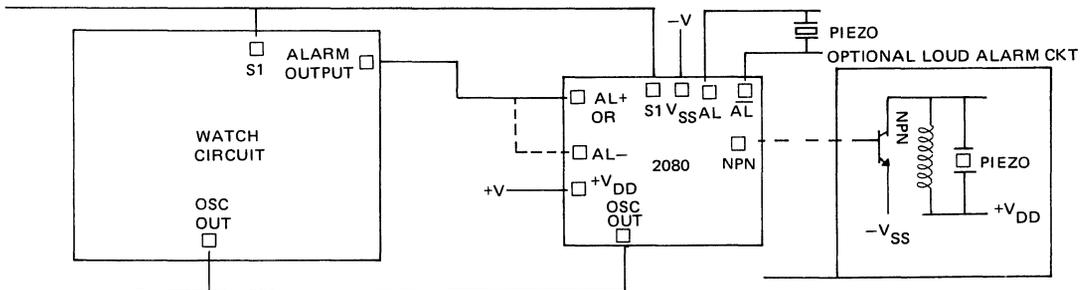

Figure 2
The normal display for the 8-digit watch is: Hours: Minutes Seconds Date and Day Flags (Refer to Figure 2). Also active in this state are the following flags: PM, Alarm, Timer, Chrono, Date and Chime.
1. The NPN pad may be used to drive the base of an NPN transistor when used with a coil for amplified sound output. Direct drive on the piezo is accomplished using AL an \overline{AL} (Ref. Fig. 2)
In an alarm watch the musical alarm may be implemented by as few as 7 signals as shown in Figure 2. Whenever the main chip energizes its Alarm Output, that signal enters the FR2080 and causes the chip to begin sequencing through its programmed tune (s).
1. The NPN pad may be used to drive the base of an NPN transistor when used with a coil for amplified sound output. Direct drive on the piezo is accomplished using AL or $\overline{\text{AL}}$ (Ref. Fig. 2)